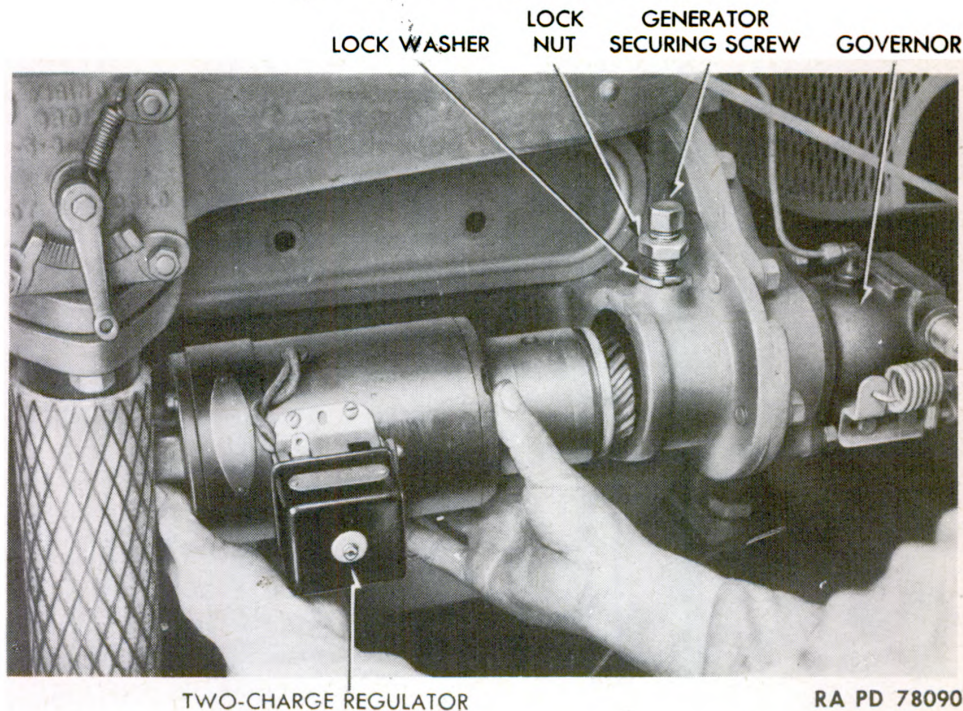

Figure 54 – Battery-charging Generator Removal
- (2) Remove screw attaching wire to 2-charge regulator terminal.
- (3) Loosen lock nut on generator securing screw that goes through generator housing to secure generator in place. Loosen generator securing screw until it is entirely clear of generator and lift out generator (fig. 54).
- (1) Place generator into housing so that its gear meshes with camshaft timing gear, and 2-charge regulator faces opposite engine cylinder block (fig. 54).
- (2) Turn down on generator securing screw until tight and lock with lock washer (fig. 54). **NOTE:** Generator securing screw must enter dowel hole in generator body to secure generator in position properly. When turning down on generator securing screw, slightly rotate generator until screw is felt entering dowel hole.
- (3) Attach wire to 2-charge regulator terminal with screw and lock washer.